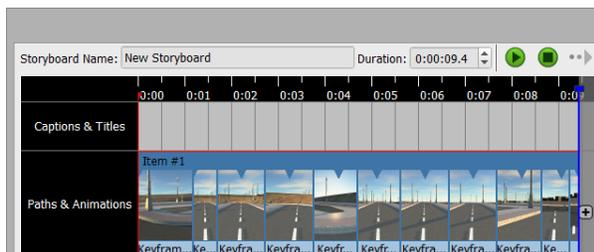

Figure 26
8. Select the CarPool Road. Several thumbnails appear in the timeline, as shown in Figure 26.